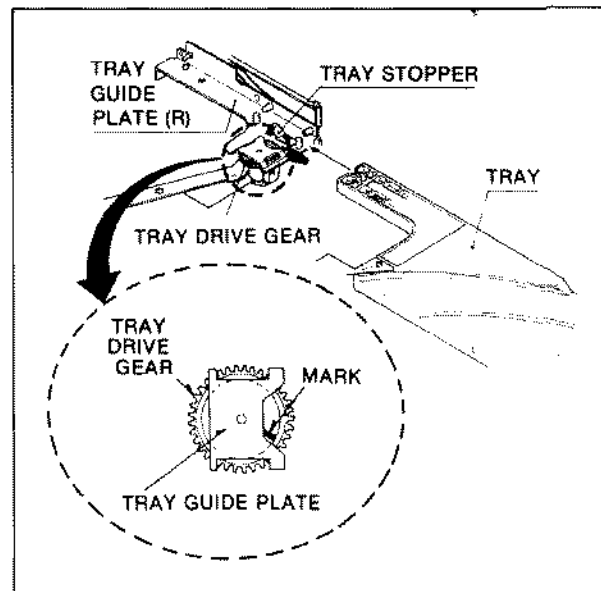

Fig. R2
5. Turn the Tray Drive Gear counter clockwise so that the mark on Tray Drive Gear appears on the right corner as shown in Fig. R2.
- Install the Tray as shown in Fig. R2.